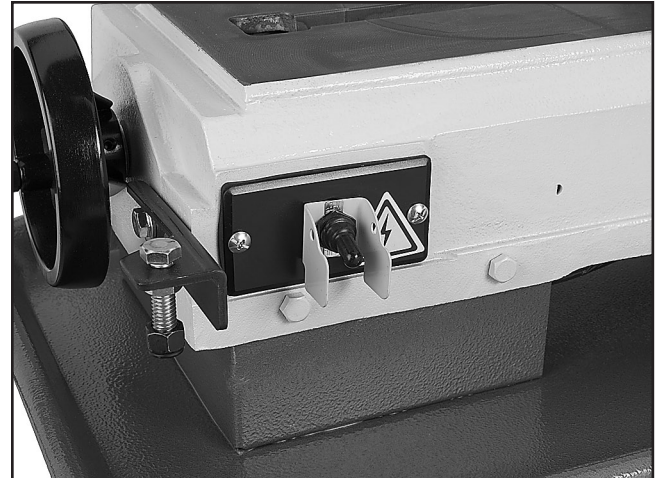

Figure 21. ON/OFF switch.
6. Start the bandsaw while keeping your finger near the ON/OFF switch at all times during the test run (**Figure 21**). The bandsaw should run smoothly with little or no vibration.